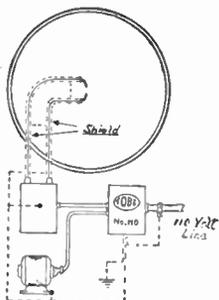

Fig. 2
A. No. A single No. 110 Filterette so connected that it is carrying the entire load of the Oil Burner (Fig. 2) should satisfactorily suppress the interference from all parts of the Oil Burner. When a single Filterette is used, its return wire should be connected to the frame of each motor, and to the metal case of the ignition transformer.